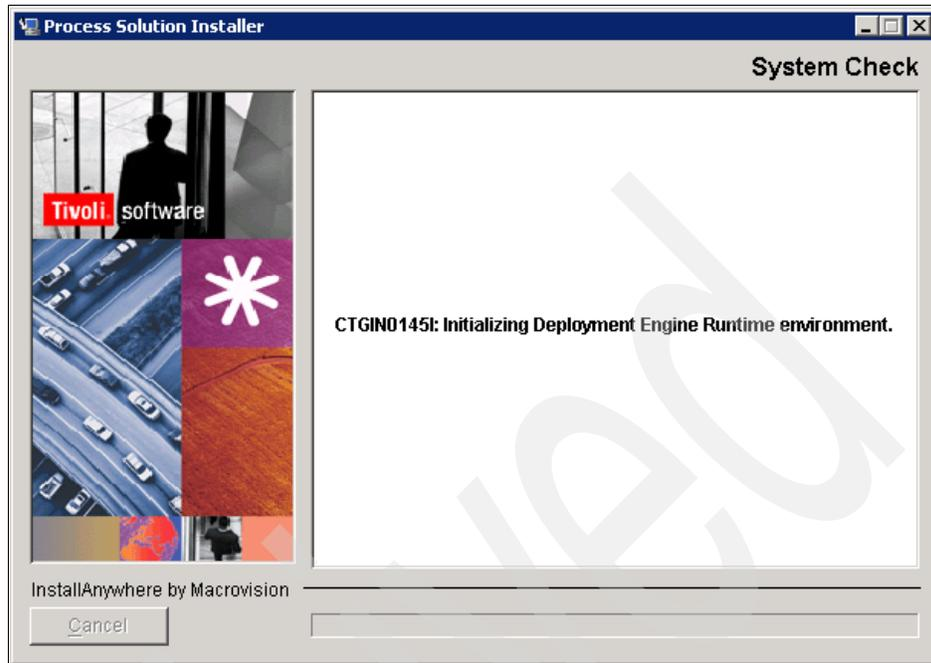

Figure 8-1 Deployment engine system check
4. Proceed with the prompts. The dialog box shown in Figure 8-1 on page 220 appears.